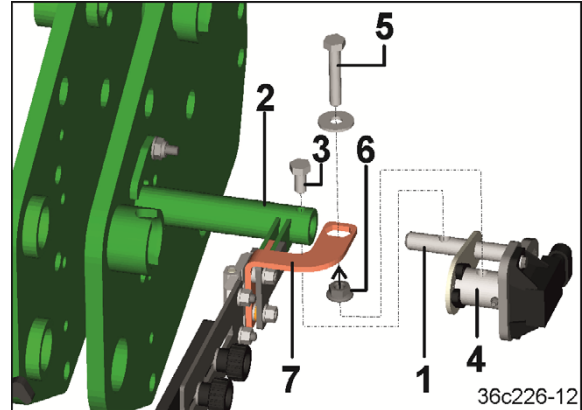

Fig. 117
7. Insert the torque support (Fig. 117/1) into the holder (Fig. 117/2) and fasten with a hex. bolt (Fig. 117/3).
8. Connect the potentiometer (Fig. 117/4) with a hex. bolt (Fig. 117/5) and hex. nut (Fig. 117/6) with the section (Fig. 117/7).